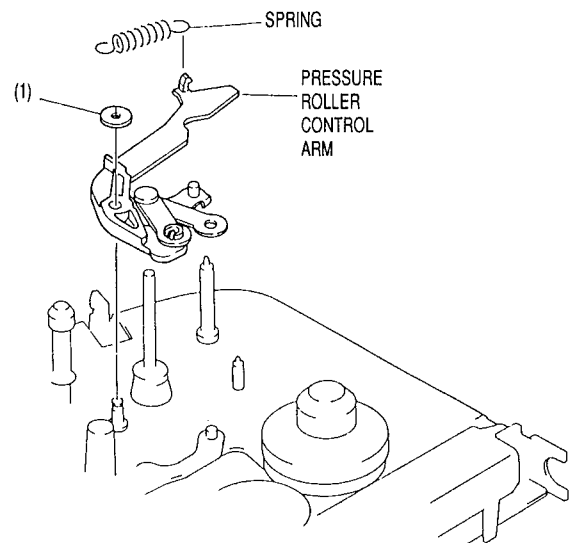

Fig. 3-28
- 1) Release the spring between the pressure roller control arm and chassis. (See Fig. 3-28)
- 2) Remove 1 washer (1) holding the pressure roller control arm.